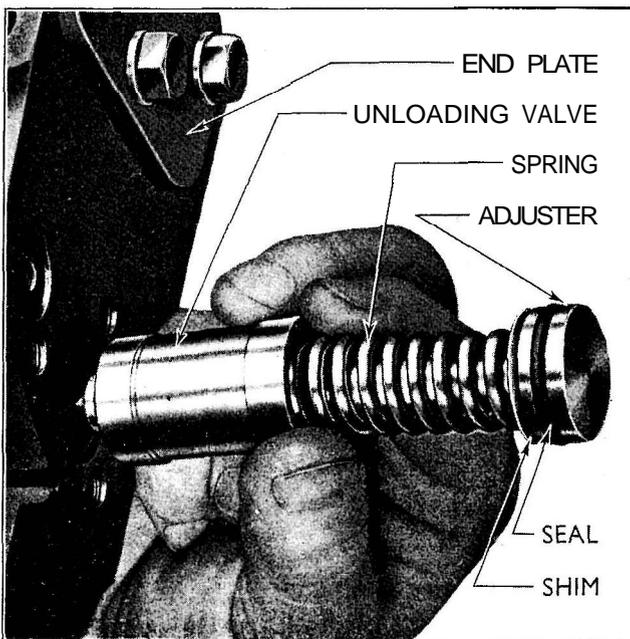

Fig. 185
- 2 Remove the gasket, adjuster, spring and unloading valve (see Fig. 185).
- 2 Replace the valve, spring and adjuster with appropriate number of shims, gasket and cover plate (Fig. 185) and secure with the three bolts. Test as described above.
- 3 The head of the adjuster has a tapped hole, and is removed by inserting a screw ($\frac{1}{16}$ in. dia.) and pulling the unloading valve adjuster, shims, valve and spring out of the housing. The number and thickness of shims should be checked since these control the relief pressure of the valve (see Fig. 185).